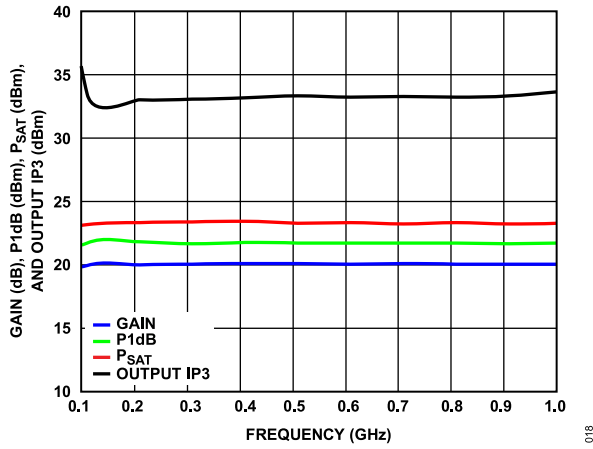
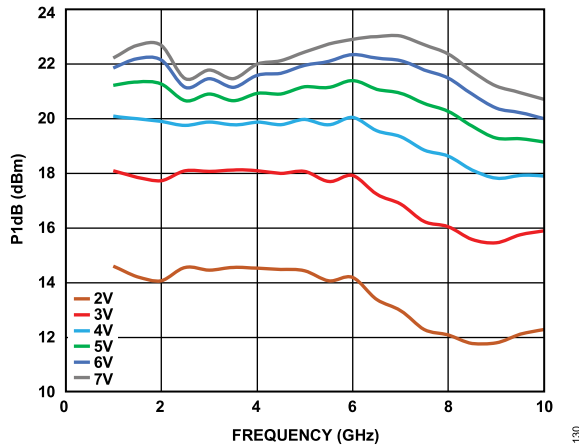
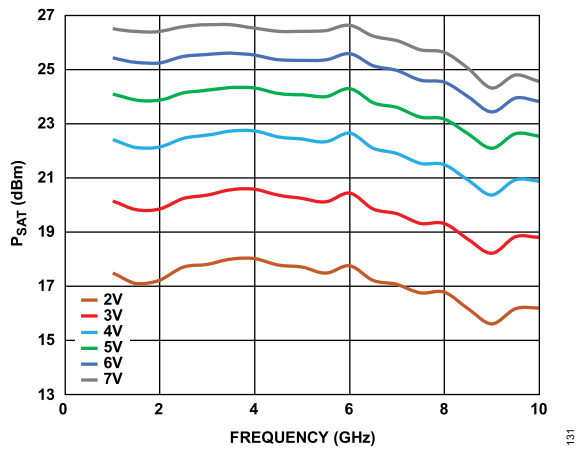

Figure 19. Gain, P1dB,  $P_{SAT}$ , and Output IP3 vs. Frequency
Figure 31. P1dB vs. Frequency for Various Supply Voltages,  $I_{DQ} = 65$  mA
Figure 32.  $P_{SAT}$  vs. Frequency for Various Supply Voltages,  $I_{DQ} = 65$  mA
Figure 19, Figure 31, and Figure 32 show that increasing the voltage from 2 V to 7 V typically increases  $P_{1dB}$  and  $P_{SAT}$  at the expense of power consumption with minor degradation on noise figure (NF).